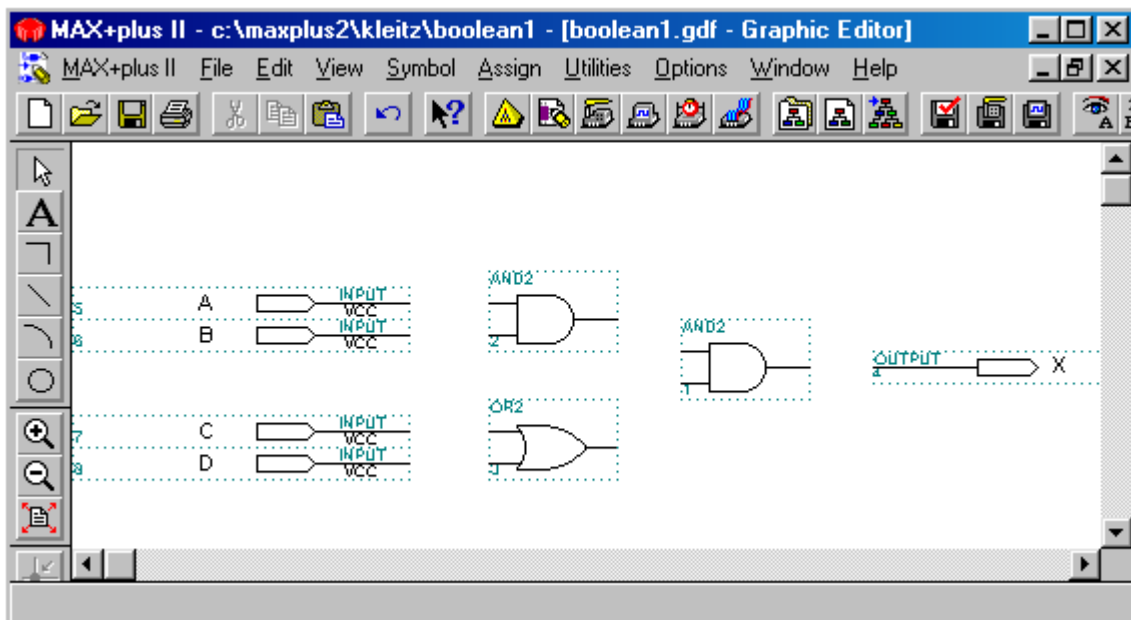

Figure E-5
7. Repeat for the other inputs: **B**, **C**, **D** and the output **X**. (The results of steps 4-7 are shown in Figure E-5.)